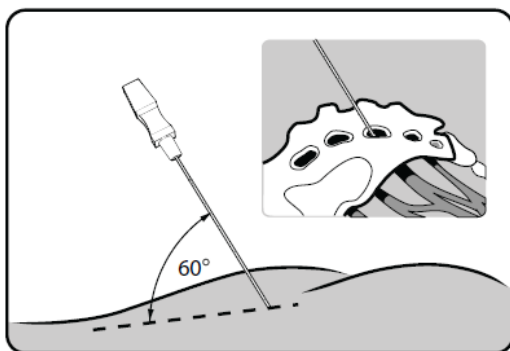

Figure 5. Insert the foramen needle at a 60-degree angle
2. Place the needle into the foramen at an approximate 60-degree angle to the bony surface. The nerve lies along the superior-medial aspect of the foramen. (Figure 5)